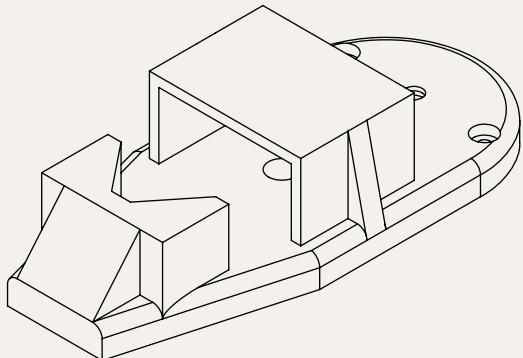
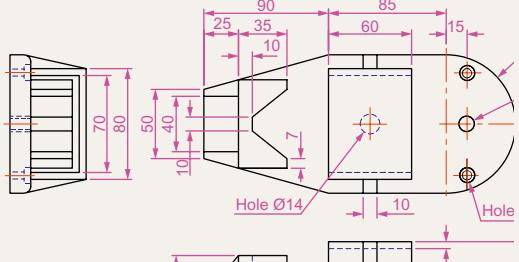

Fig. 7.32 Exercises 8 and 9
Fig. 7.33 Exercises 8 and 9
8. Construct a third angle projection of the component shown in the isometric drawing Fig. 7.32 and the three-view first angle projection Fig. 7.33.
9. Construct the isometric drawing shown in Fig. 7.32 working to the dimensions given in Fig. 7.33.